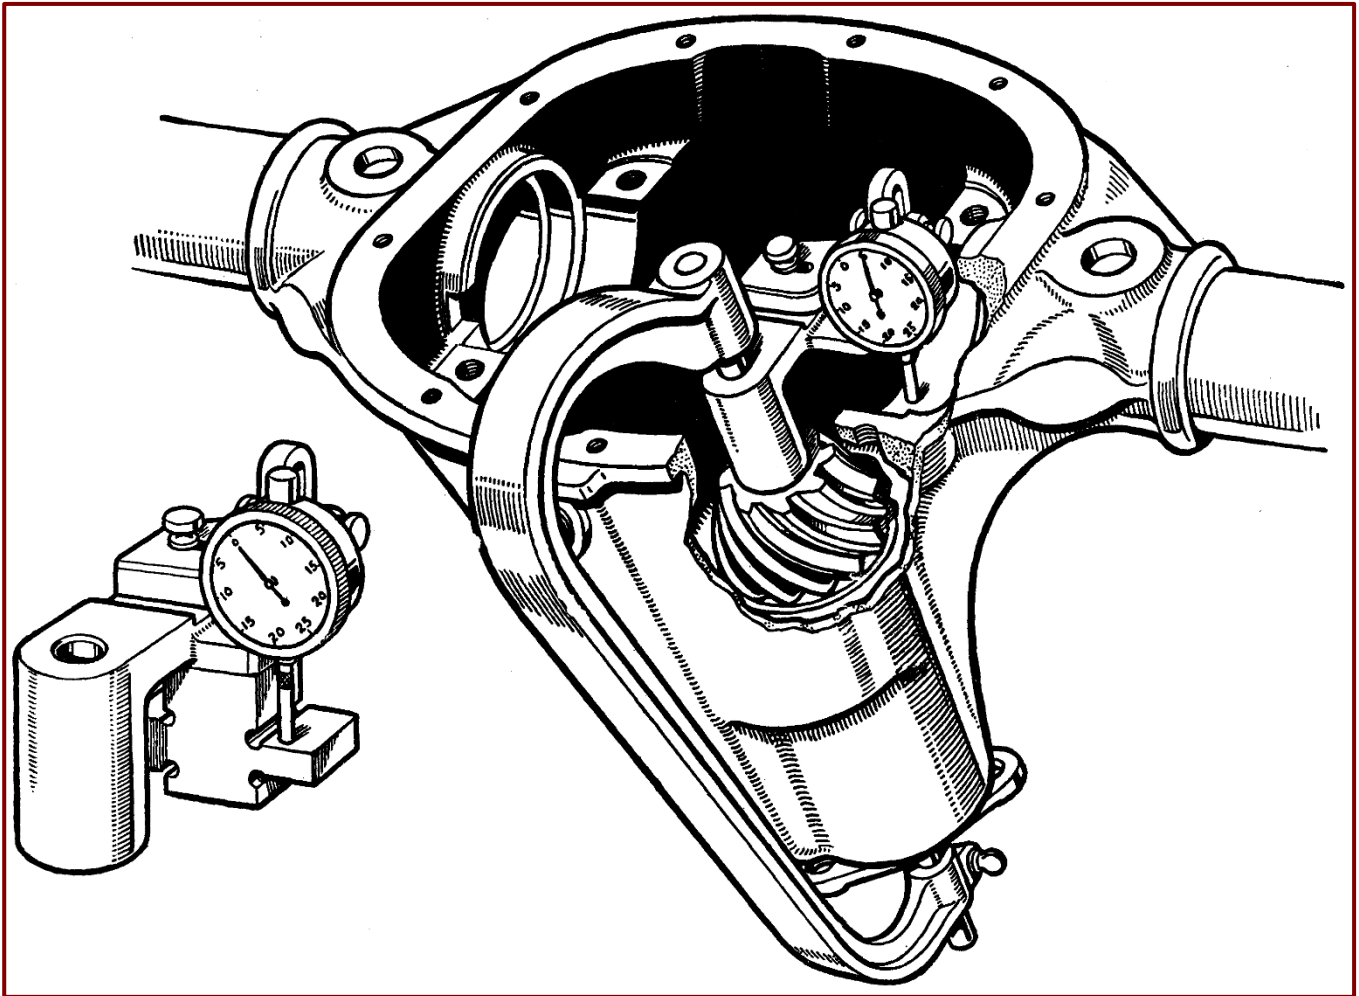

Figure 54. Checking Pinion Cone Setting.
6. Check the pinion cone setting distance by means of the gauge, Tool No. SE. 107 (Figure 54, Page 53). The procedure for using the gauge is: